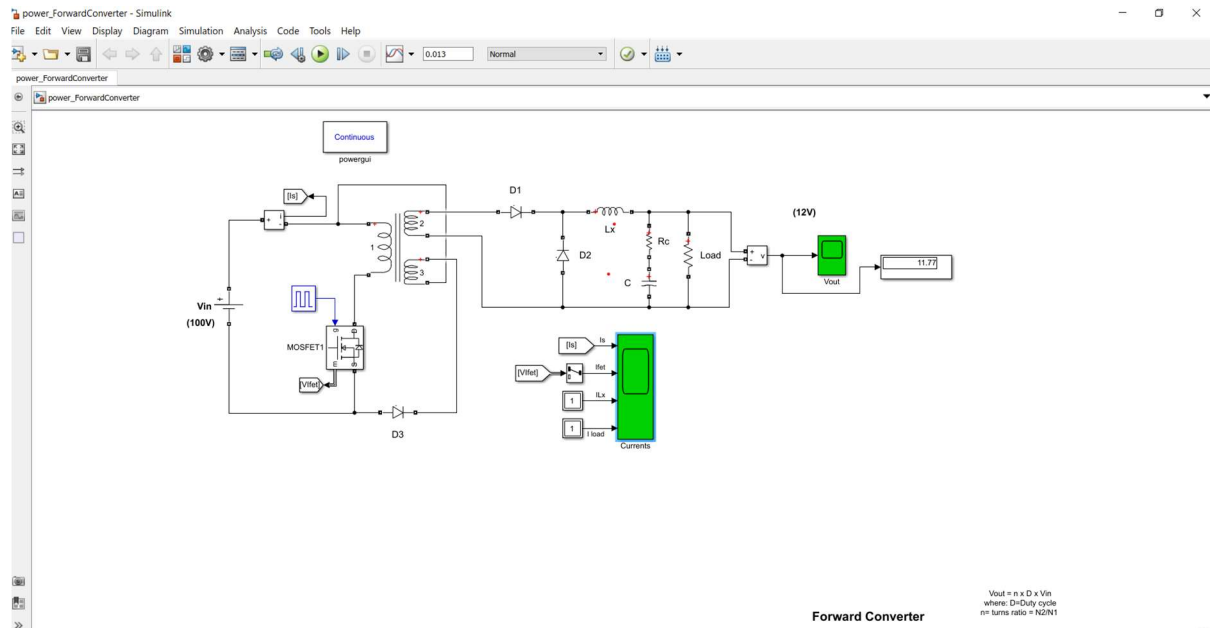

Fig 1.1 - General Design of Forward converter
6. The Circuit diagram is as shown in Fig 1.1.